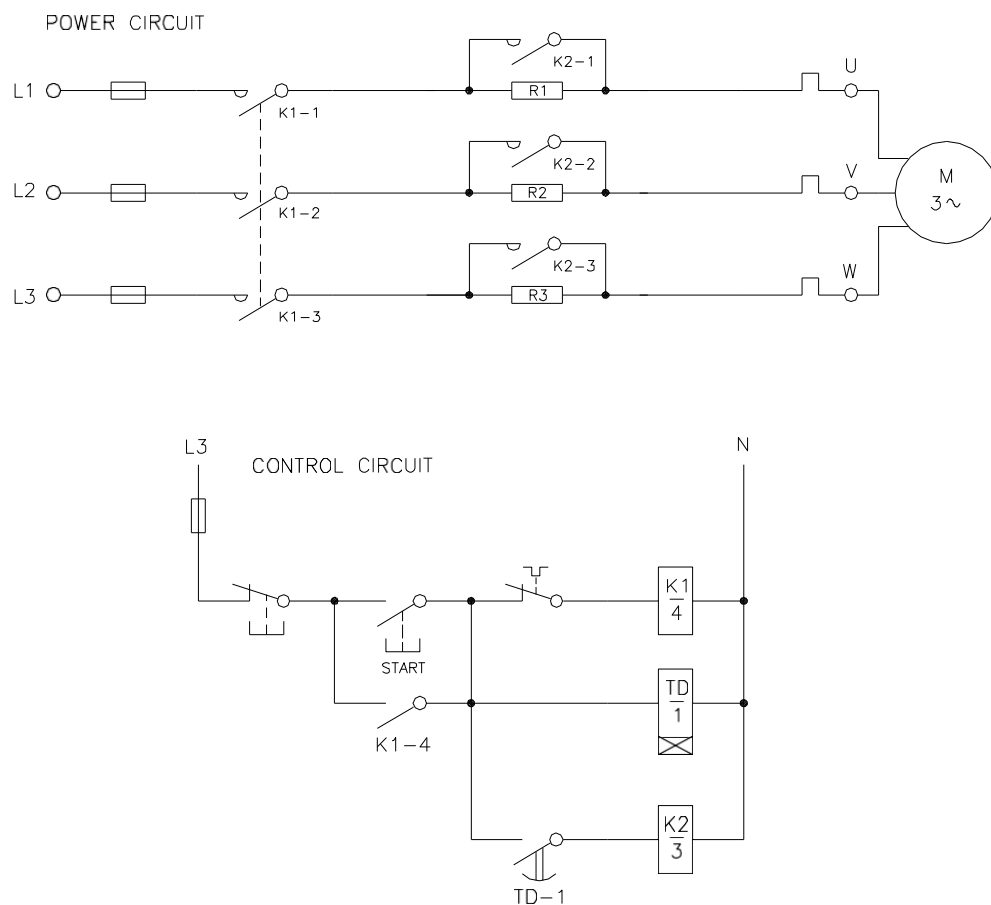

Figure 1 - A one step primary resistance starter circuit.
2. The line resistors can be cut out in steps to provide controlled acceleration if a suitable control circuit is used. Figure 1 show a typical circuit for a one step primary resistance starter.
- 8. Figure 2 shows a circuit diagram of a typical two-step primary resistance starter. If you compare this circuit with the one in Figure 1, you will see that they are very similar - the two-step starter has an additional bank of series resistors in the power circuit and an additional timing stage in the control circuit. Other steps could be added to provide a smoother acceleration if required.